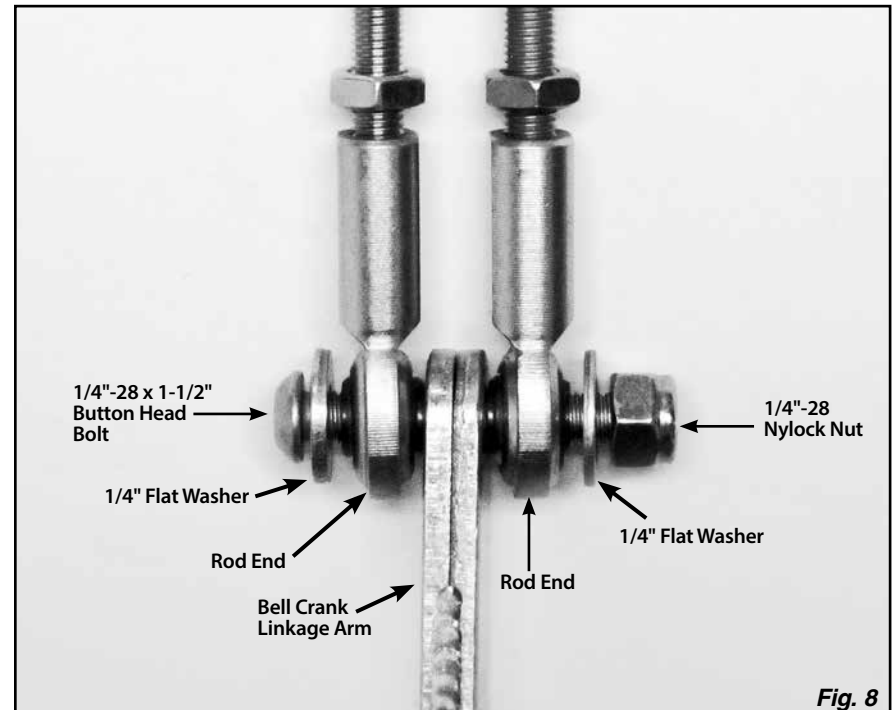
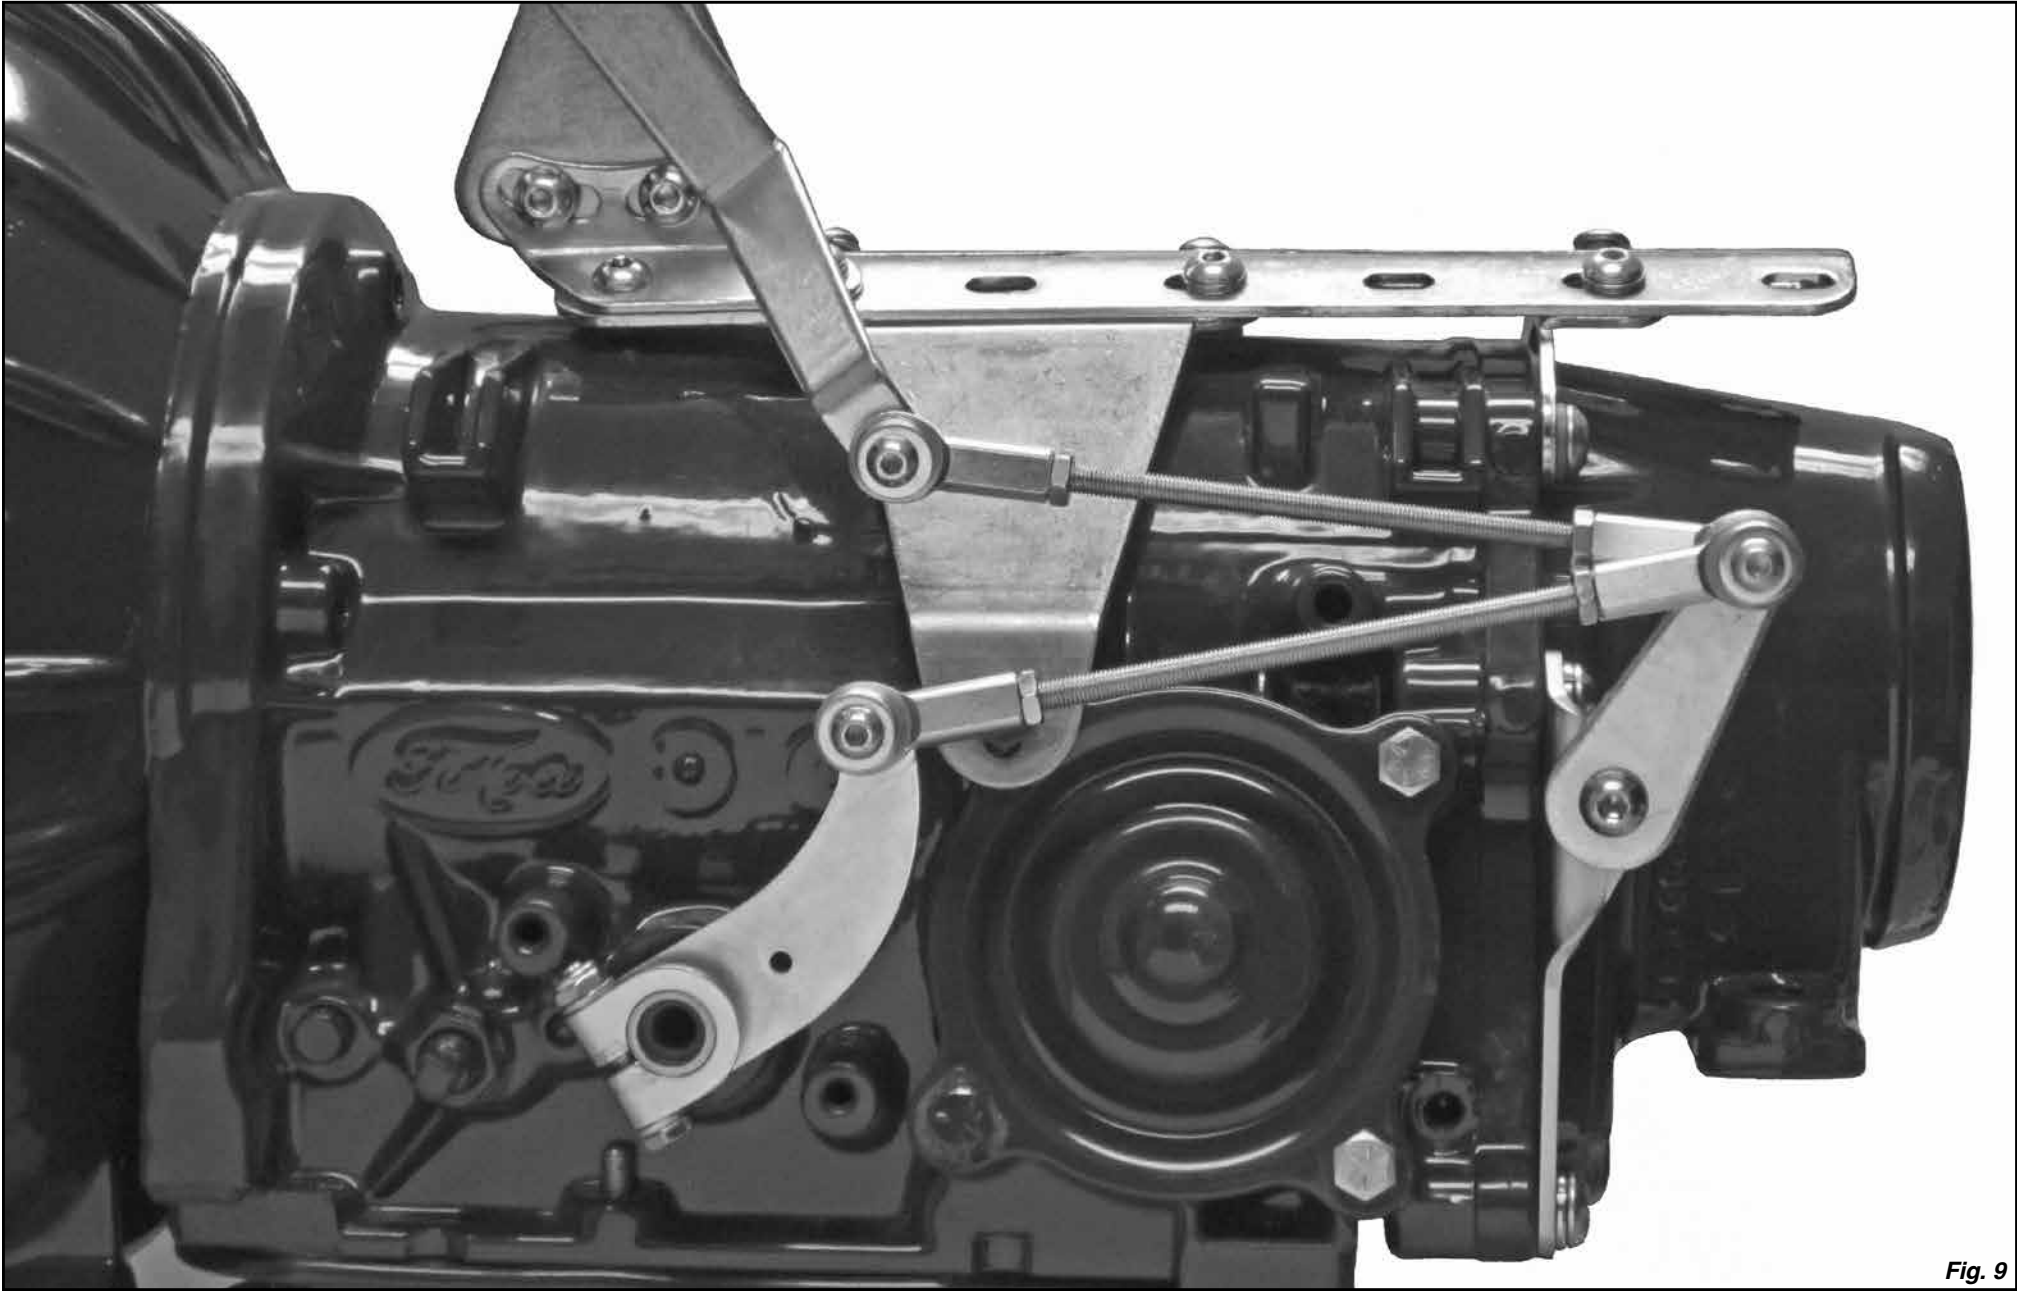

Fig. 8
Fig. 9
Step 10: Install the opposite end of the upper rod assembly onto the 1/4"-28 x 1-1/2" button head bolt on the inside of the bell crank linkage arm (towards the transmission), adjusting the length of the upper rod assembly as needed. Install a flat washer and 1/4"-28 nylock nut onto the 1-1/2" button head bolt. **Fig. 8 and Fig. 9**
Step 11: With the shifter still in Park, check to make sure that there isn't any slack in the linkage, and that the linkage is not under tension. Make sure that the button in the shift knob moves up and down freely. Tighten the 1/4" jam nuts on the threaded rods. **Fig. 9** shows a completed installation.